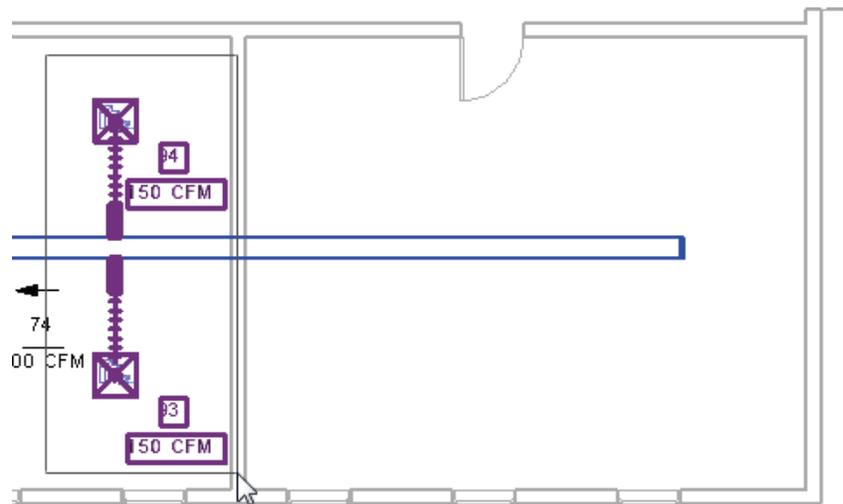

Figure 2–48
1. Select the **Air Terminals** and associated ductwork as shown in Figure 2–48.